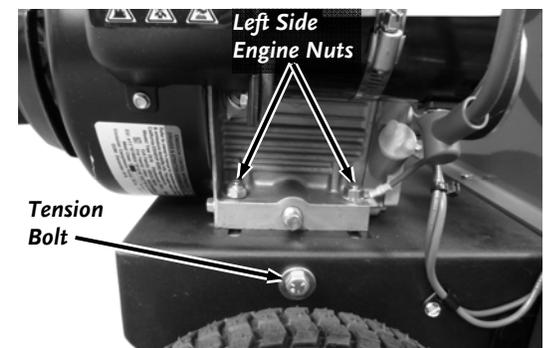

Figure 21
2. Loosen the two left side Engine Mount Locknuts using a 1/2" Wrench (Figure 21).
4. Loosen the Tension Bolt using a 1/2" Wrench (Figure 21) until the belt can be removed from the Pulleys.